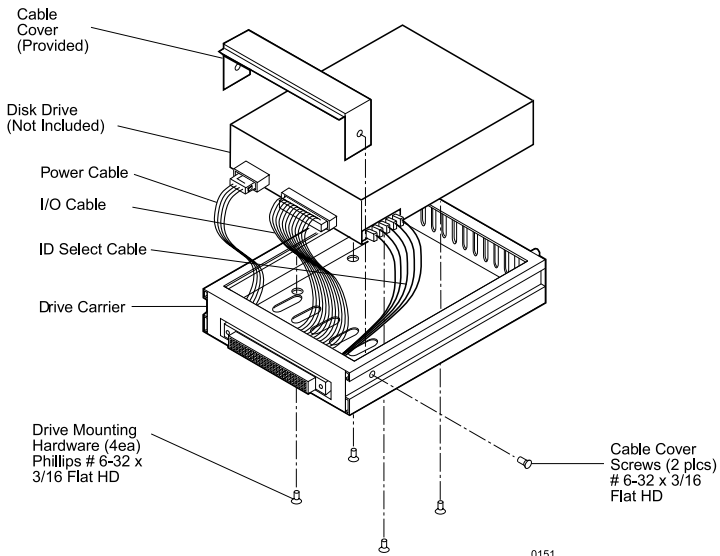

Figure 6A: Drive Installation Assembly
1. Attach the I/O cable from the rear distribution board of the DE100i-SW carrier to the disk drive (Figure 6A).
2. Attach the 4-pin DC power cable from the rear distribution board to the disk drive (Figure 6A).